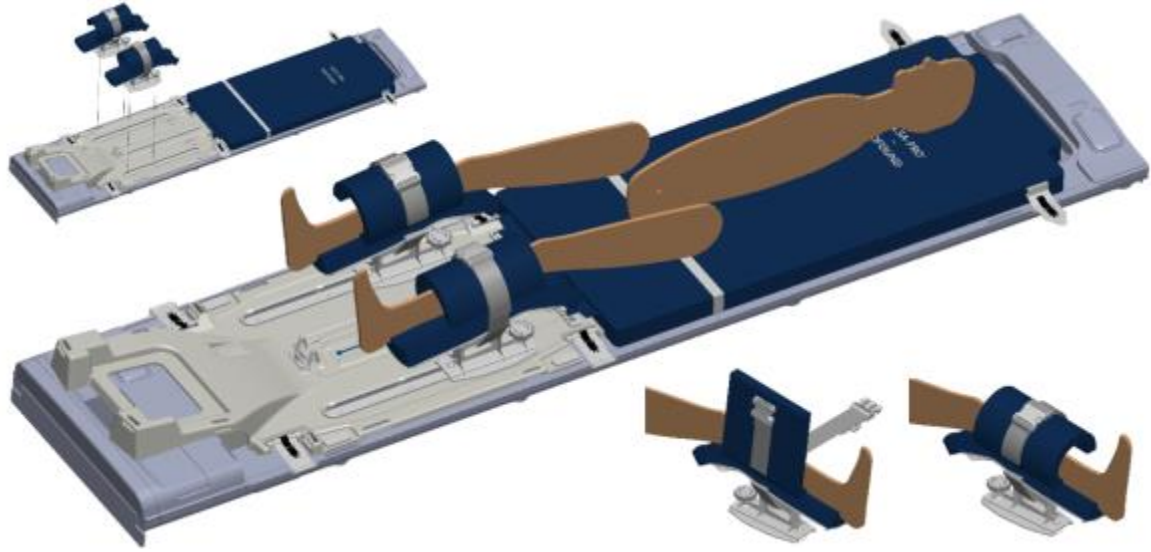

Figure 18: Initial patient positioning and attachment of leg supports
4. Have an assistant lift the patient's legs one at a time while you set up the leg supports (*Figure 18*):